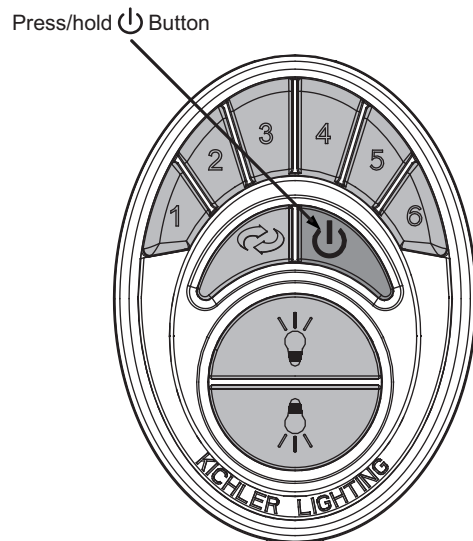

Fig. 22
4. Follow the below steps to set the remote control: The auto learning function will only mandate within 60 seconds when turning the fan's AC power ON. (Figure 22)